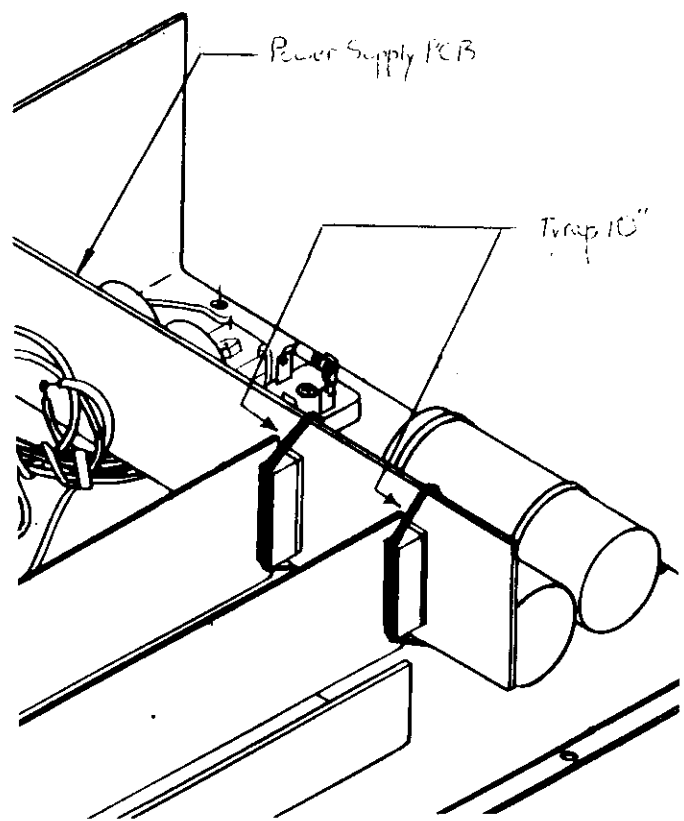

Figure 2
2. Tyrap power supply board and amp boards together as shown in Figure 2.